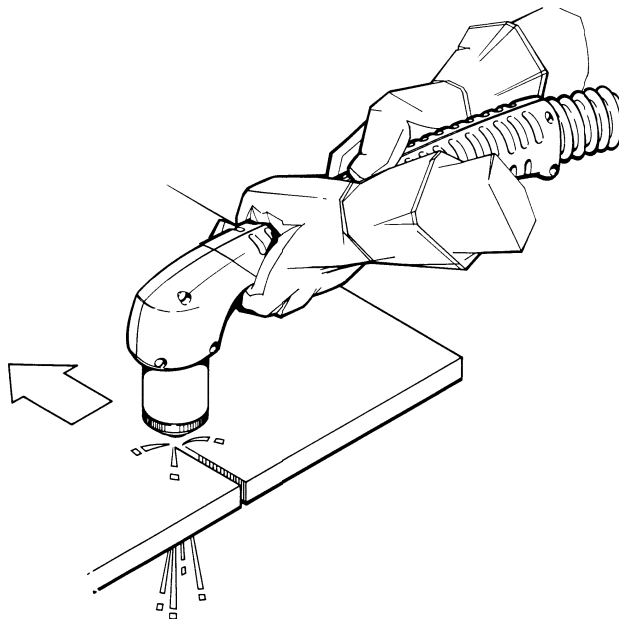

Figure 4-6 Dragging the Torch
4. Hold the torch nozzle (tip) at a vertical position and watch the arc as it cuts along the line (Fig. 4-6). By lightly dragging the nozzle on the workpiece, you can maintain a steady cut. For straight-line cuts, use any straight edge as a guide.